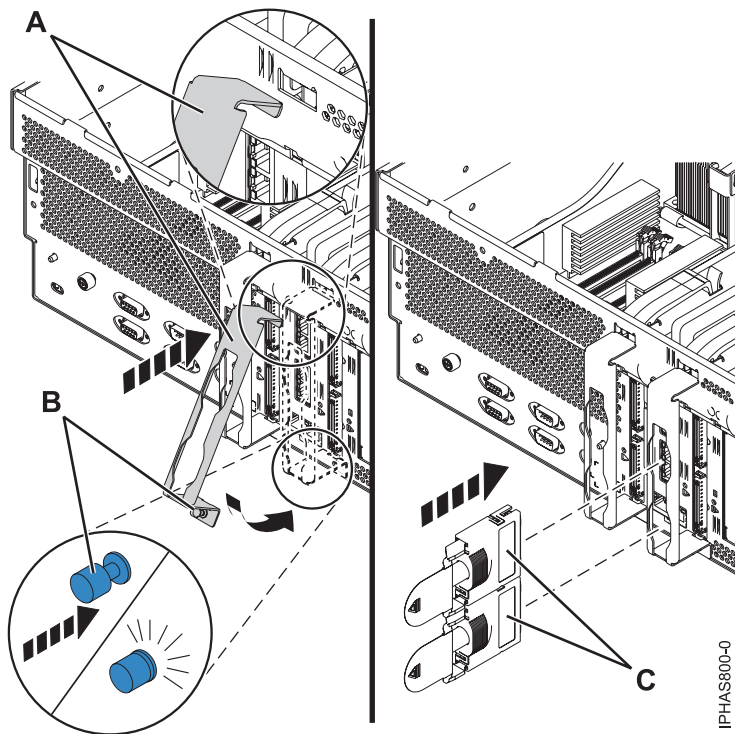

Figure 4. Cable retention bracket installation
15. Tilt the cable retention bracket (A), shown in Figure 4, to hook the tab at the top of the bracket into the slot in the assembly.
16. Swing the cable retention bracket towards the chassis and push the bracket fastener (B) into the chassis opening to secure the bracket.
20. Reconnect all power and signal cables to their respective connectors. Ensure that the GX adapter cables (C), shown in Figure 4 on page 4, are routed through the appropriate cable retention brackets to prevent excessive cable movement.